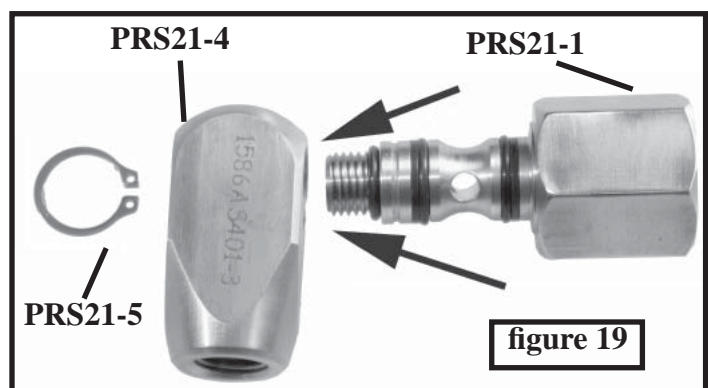

figure 19
9.8.2 When completed, the spindle will look like in figure 19.
9.9. Once the seals are in place, lightly lubricate the inside of the body (PRS21-4) with Christo-lube, and slide the spindle into the body (figure 19). Once the spindle is in the body install the snap-ring (PRS21-5), using snap ring pliers. Wipe off any excess lubricant.